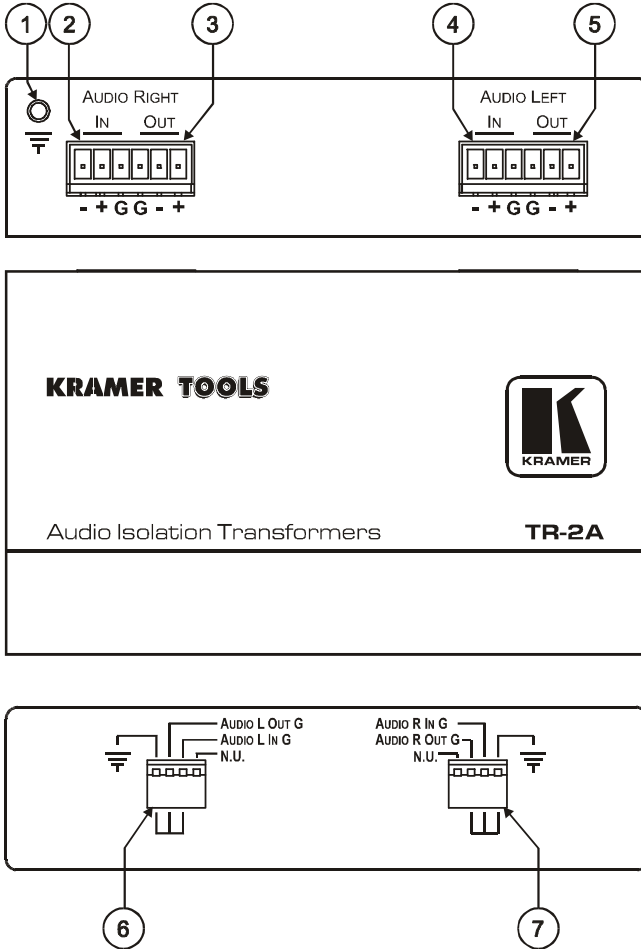

Figure 3: TR-2A Audio Isolation Transformers
- Figure 3 and Table 4 define the **TR-2A Audio Isolation Transformers**